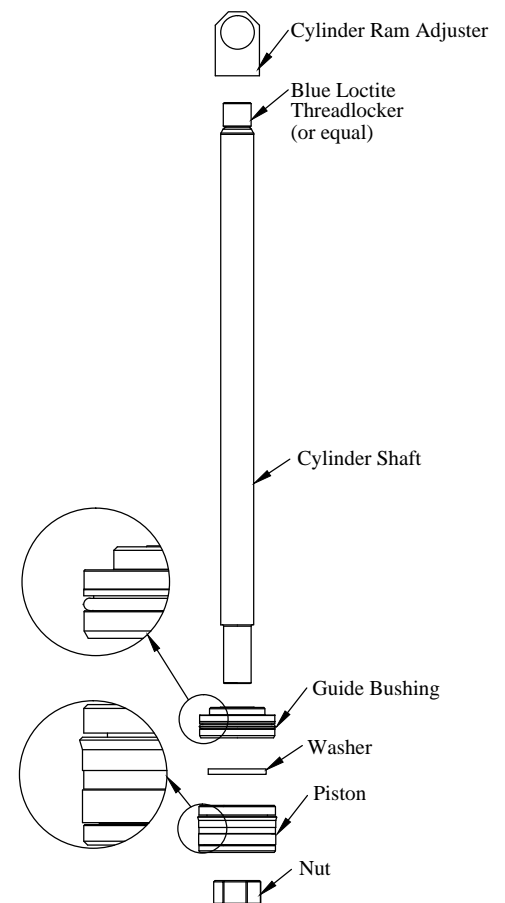

Figure 7: Cylinder shaft assembly.
2. **REMOVE** the nut with an impact while holding the ram adjuster in a vice (Figure 7).
13. **INSTALL** the guide bushing on the cylinder shaft as shown in (Figure 7).
14. **INSTALL** the washer, piston, and nut in the order and position shown in (Figure 7).